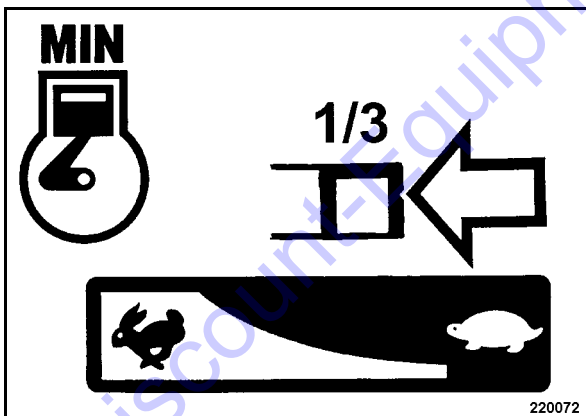

Fig. 20
- Set the throttle lever (Fig. 20) to 1/3 throttle position.